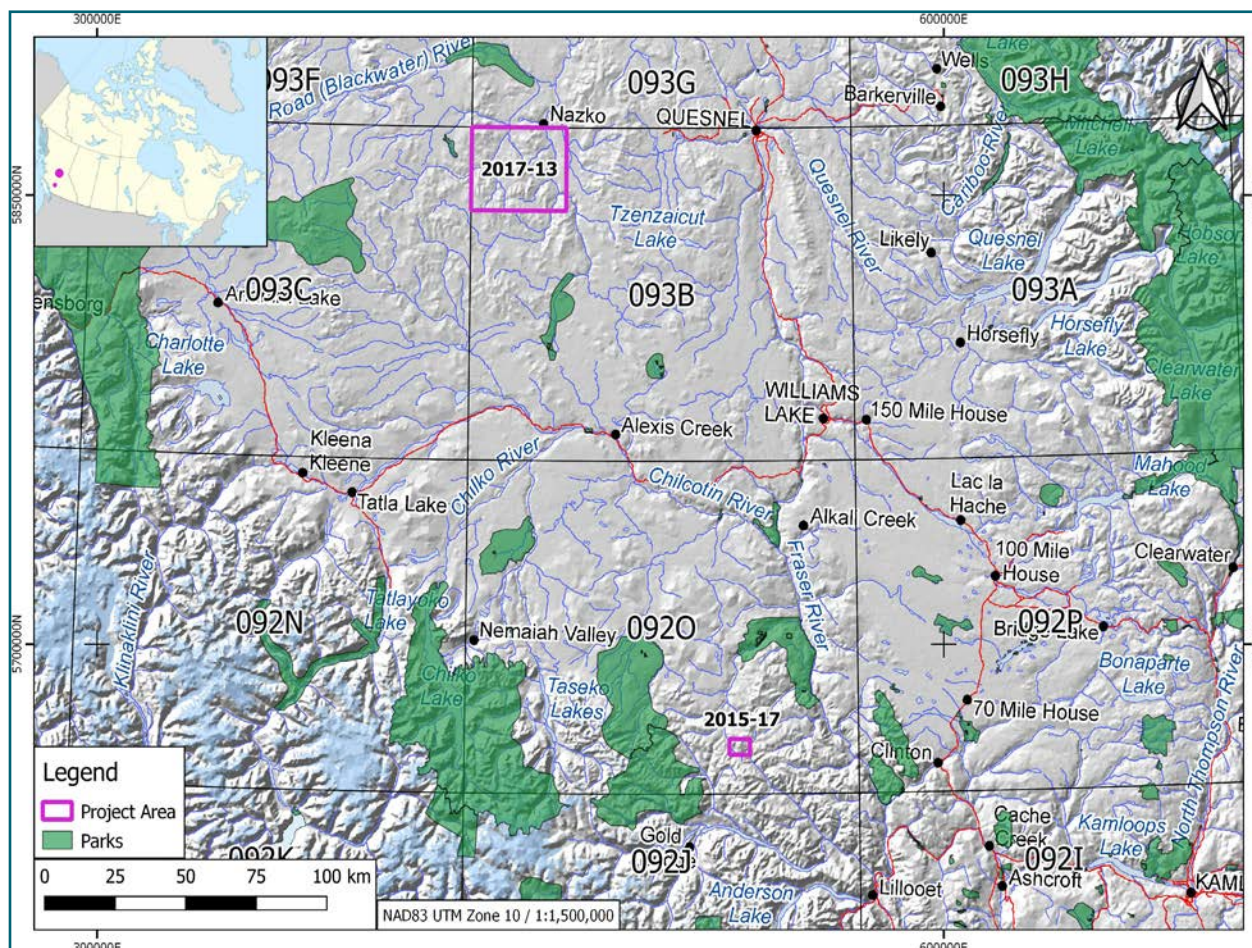

Figure 1.
Taufen (1997) and Leybourne & Cameron (2010) previously demonstrated the value of hydrogeochemistry as a mineral exploration technique. Encouraged by these examples, two Geoscience BC funded field studies were carried out in 2014 and 2016 to test the practicality and capability of photometers and voltammeters for detecting hydrogeochemical anomalies associated with mineral occurrences in the central and southern interior of British Columbia (BC), Canada. Results of these studies are reported in Yehia & Heberlein (2015), and Yehia *et al.* (2017), and are summarized in this article. In 2014, water samples were collected in August and October from streams and springs draining a porphyry Cu-Mo deposit exposed on the eastern flank of Poison Mountain. In June 2016, a regional-scale hydrogeochemical survey covering 900 km² was carried out in the glaciated and mostly till-covered area near Nazko in central BC (Fig. 1). Sampling was repeated in August and October of the same year to study seasonal variations. The Nazko survey area includes two known Cu-Au mineral occurrences: Fishpot and Bob (BC Mineral Inventory – MINFILE # – 093B 066 and 093B 054).